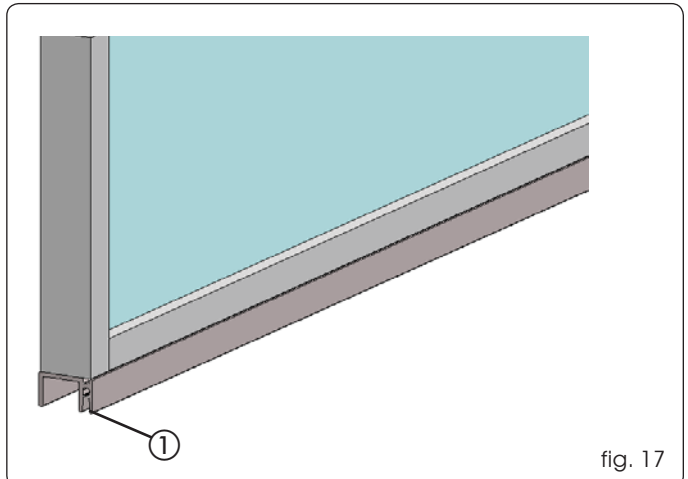

fig. 17
3. If specified, insert the brush in the seat of the sliding profile Fig. 17 ref. ①.